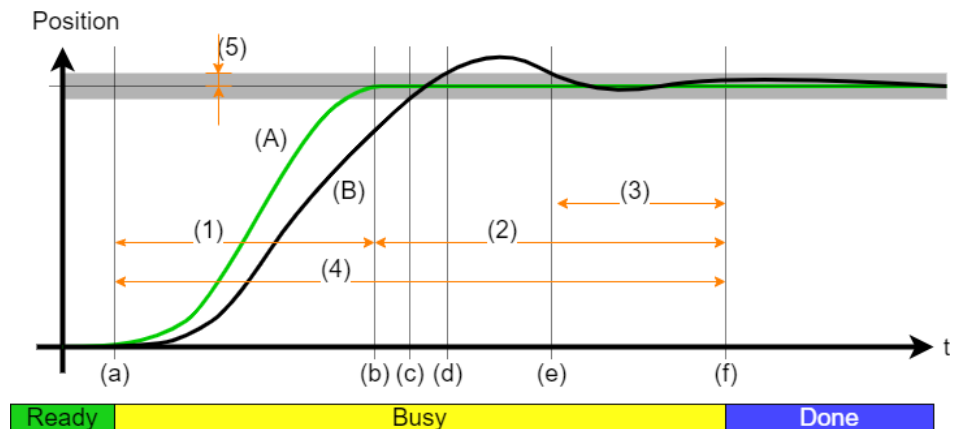

Fig. 3 Terms used in the positioning process
These parameters together determine the accuracy of a positioning operation. They correspond to the values (5) and (3) in Fig. 3.
The timeout indicates the maximum duration of a control process, i.e. the "settling time" according to section 3.5.2. The travel time is not included in this calculation. The settling time starts as soon as the target is theoretically reached. The positioning is considered complete as soon as point (d) in the above Fig. 3 is reached.